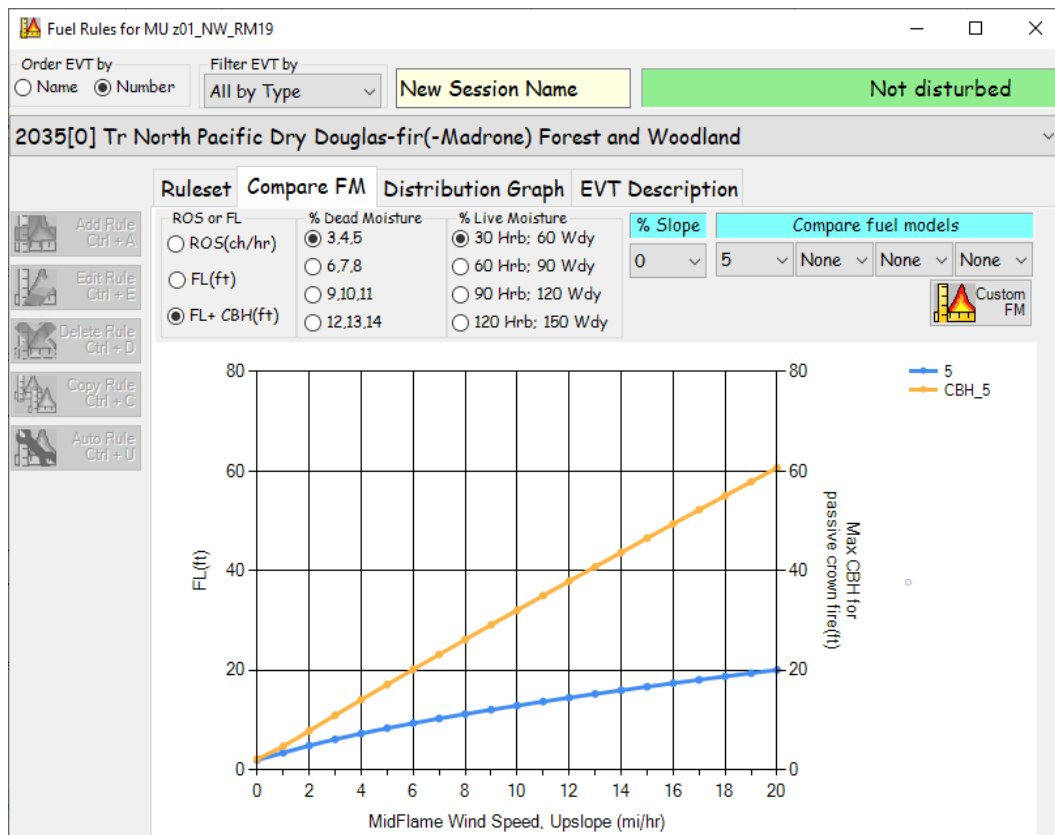

Figure 6-16. Select **Compare FM** page tab.
- Select the **Compare FM** tab on the **Fuel Rules** screen to compare the required CBH needed for torching and active crown fire initiation (Figure 6-16). (For additional information refer to 7.5 Fuel rules.)